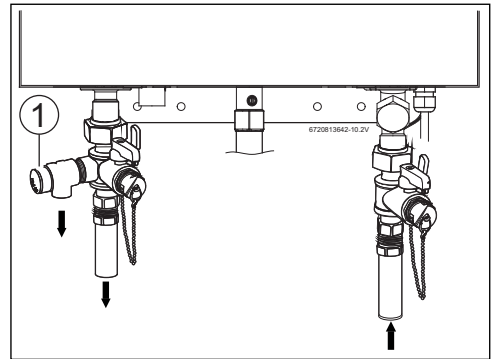

Fig. 15 Plumbing Connections (with shutoff valves) and Pressure Relief Valve
- ▶ Full port shutoff valves should be installed on both the cold water supply and hot water outlet lines to facilitate servicing the heater (see fig. 15).
A pressure relief valve must be installed at the time of installation. No valve is to be placed between the PRV and the heater. No reducing coupling or other restriction may be installed in the discharge line. The discharge line must be a minimum of 4" above a drain and installed such that it allows complete drainage of both the PRV and the line. The discharge line must be placed where it will not cause any damage. The location of the PRV must be readily accessible for servicing or replacement, and be mounted as close to the water heater as possible. See fig. 15. To install the PRV, a suitable fitting